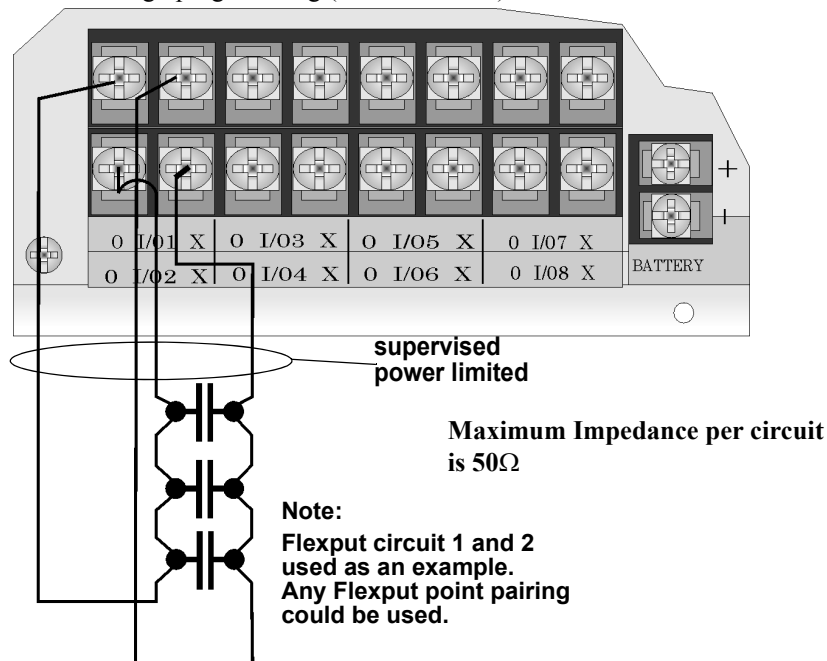

Figure 4-35 Class A initiating Switches
1. Wire the Class A switch as shown in Figure 4-35.
Note: In programming any point that uses multiple Flexput circuits, the lowest Flexput circuit number is used to refer to the circuit pair. For example, Figure 4-35 uses both Flexput circuit 1 and 2, so in programming it would be referred to as point 1.